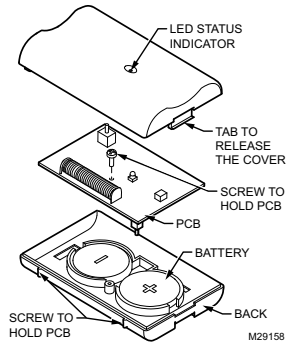
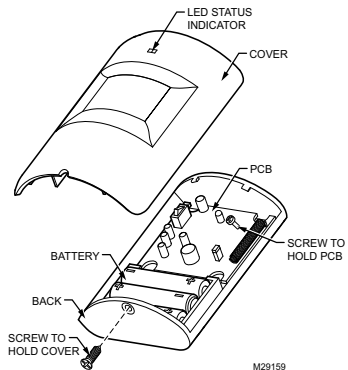

Fig. 12. Door sensor battery replacement.
Fig. 13. PIR occupancy sensor battery replacement.
2. Power the PIR sensor by inserting the three AAA batteries provided. See Fig. 13 for proper battery orientation.
For correct battery replacement, note the battery polarity orientations in Fig. 12 and Fig. 13.